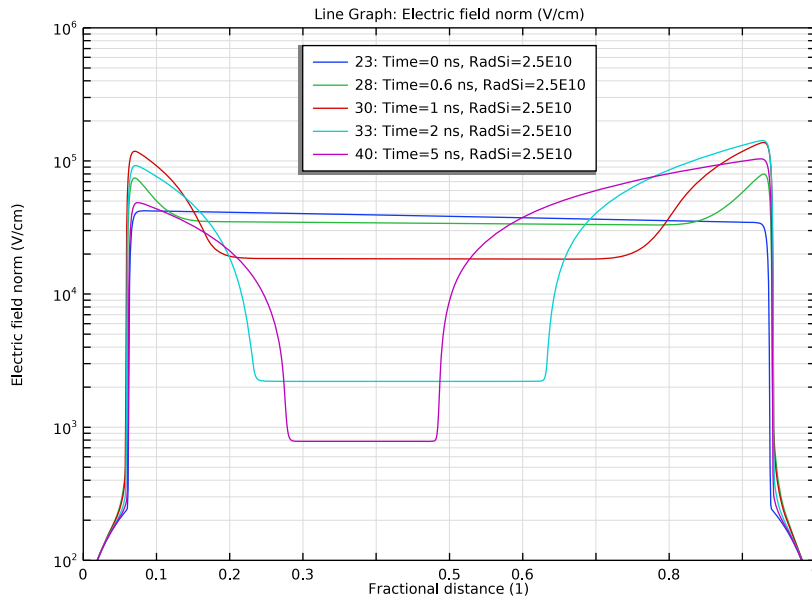

Fig. 8 Transient Photocurrent Response
After completing the steady-state study, we are now ready to investigate the effect of pulsed radiation with the waveform given by the inset of Fig. 8 in the reference paper. This waveform is provided by the pulse function  $pw1(t/tp)$  in the model with a normalized height of unity. The peak dose rate is specified by the parameter  $RadSi$  directly in units of  $Rad(Si)/s$ . Tighten the tolerance to  $1e-8$ . Since the solution of the steady-state study is used as the initial condition, use the option of **Initial value based** for the scaling of the dependent variables, to get a proper scaling for the error estimate.
Plot the hole, electron, and electric field distributions at several times, and the photocurrent response at two ionization levels, to be compared with Fig. 7A ~ 7C and Fig. 8 in the reference paper, respectively.
- 2 In the **Settings** window for **ID Plot Group**, type Fig. 8 Transient Photocurrent Response in the **Label** text field.
- 1 Right-click **Fig. 8 Transient Photocurrent Response** and choose **Global**.
- 5 In the **Fig. 8 Transient Photocurrent Response** toolbar, click  **Plot**.